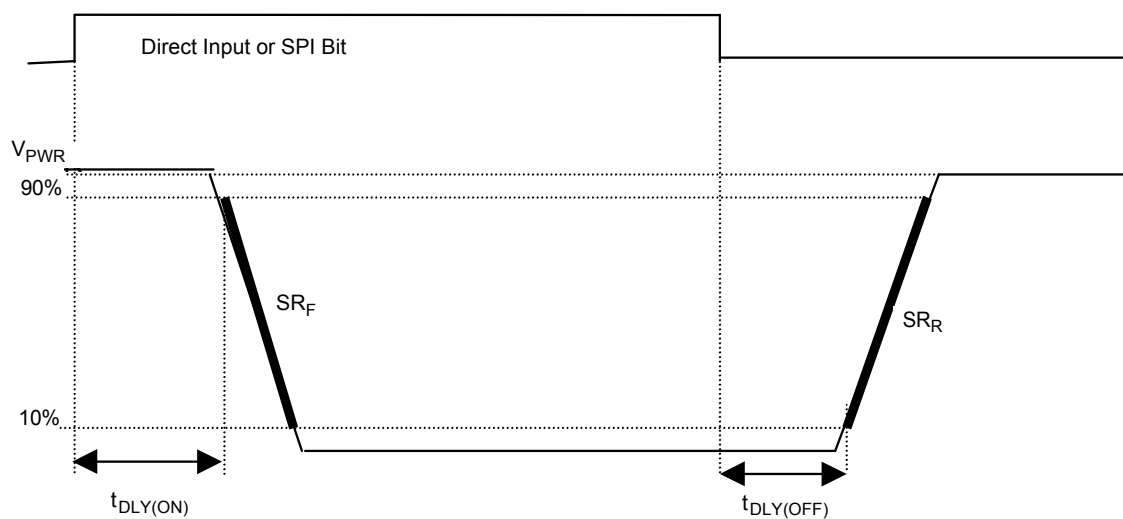

Figure 3. Output Slew Rates and Time Delays, Low Side
31. Low-side output rise and fall slew rates measured across a $5.0\ \Omega$ resistive load at low-side output = 10% to 90% (see Figure 3, page 18).
32. Low-side output turn-ON delay time measured from 50% of the rising ILS to 90% of V_{OUT} with $R_L = 27\ \Omega$ resistive load (see Figure 3, page 18).
33. Low-side output turn-OFF delay time measured from 50% of the falling ILS to 10% of V_{OUT} with $R_L = 27\ \Omega$ resistive load (see Figure 3, page 18). These parameters are guaranteed by process monitoring.